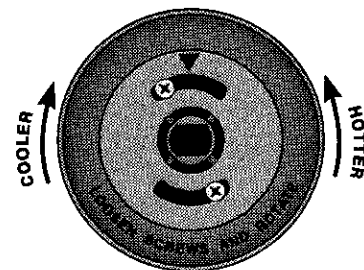

FIG. 2
**Example:** If the oven temperature is too cool and ALL foods are requiring a longer time period to cook, the knob should be rotated to move the top screw counterclockwise for a hotter oven. (See Fig 2.)